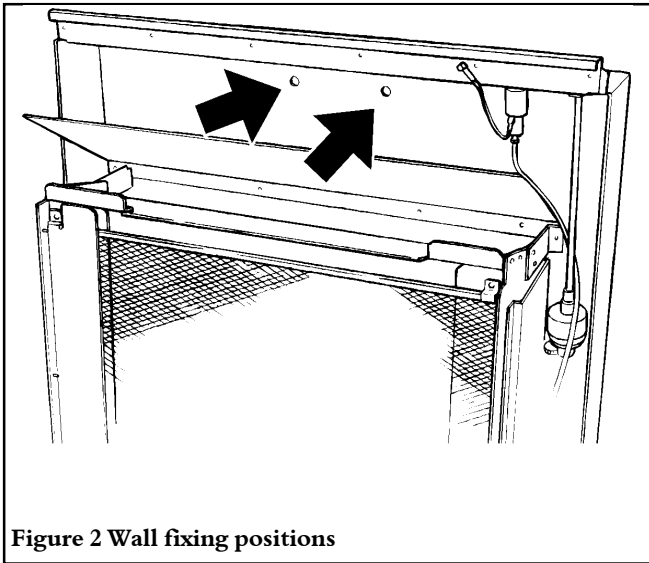

Figure 2 Wall fixing positions
2. Mark the mounting hole positions through the heater back on to the wall (See figure 2).